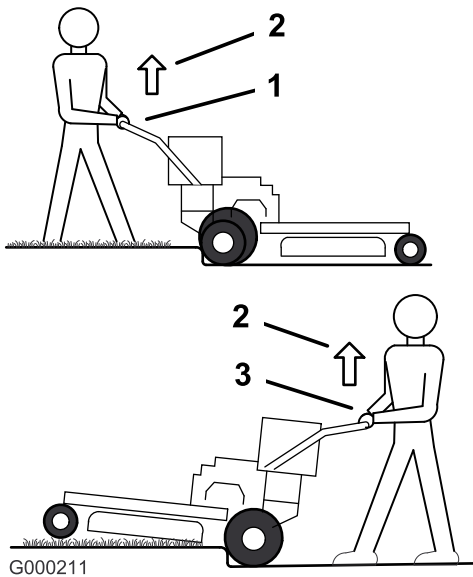
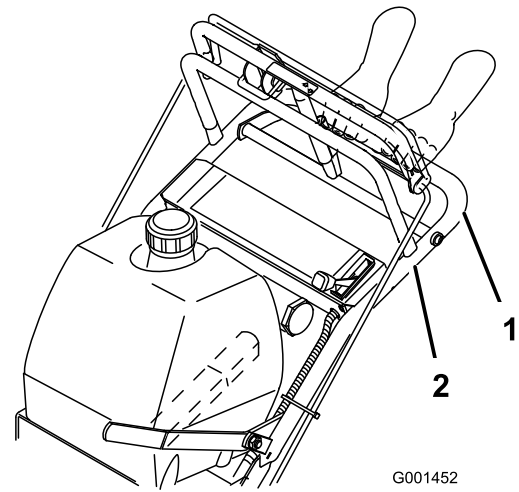

Figure 9
Figure 10
3. Drive machine until the caster wheels contact the curb (Figure 9).
4. Lift the front of the machine by pushing down on the lower handle (Figure 9).
5. Drive the machine until the drive wheels contact the curb (Figure 9).
6. Lower the front of the machine (Figure 9).
7. At the same time, engage the lower control bar and lift up the lower handle to drive over the curb (Figure 9 and Figure 10).
3. Drive the machine until the drive wheels contact the curb (Figure 9).
4. At the same time, engage the lower control bar and lift up the lower handle (Figure 9 and Figure 10).